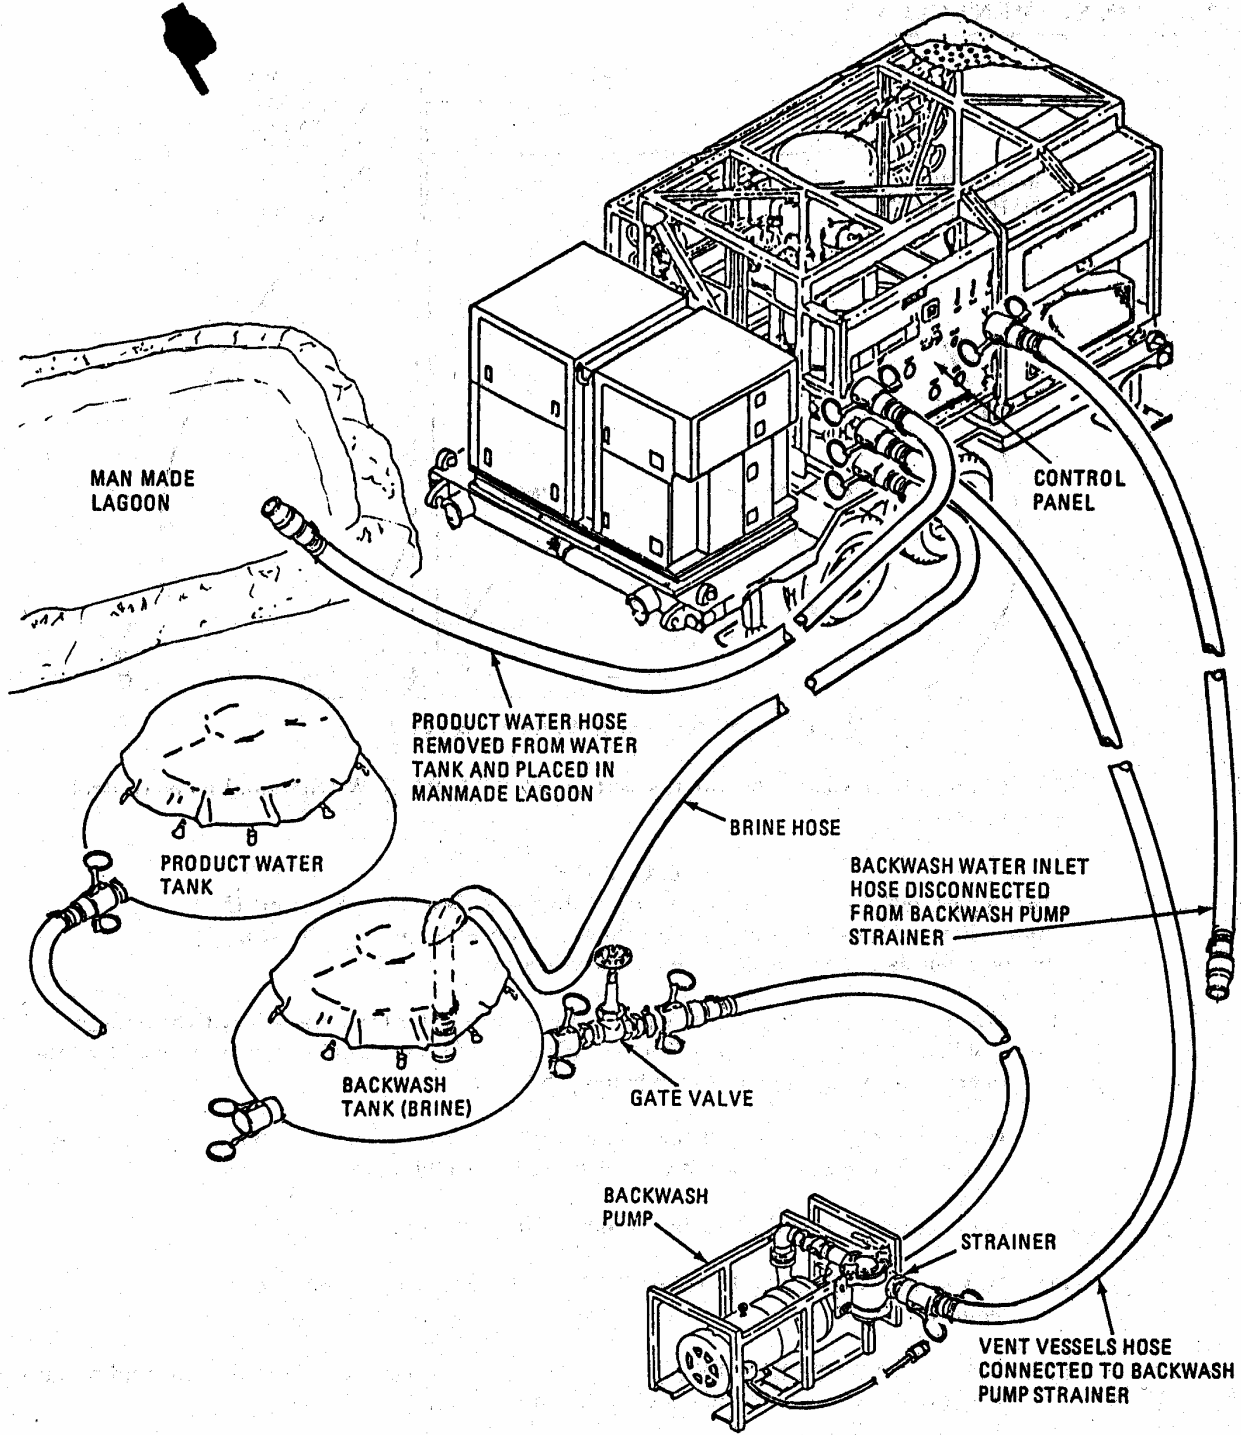

Figure 2-69. Low pH Element Cleaning
- (7) Connect backwash water inlet hose (figure 2-69) to BACKWASH coupling on control panel.
- (9) Disconnect backwash hose from backwash pump strainer (figure 2-69) and place end of hose at least 25 yards down stream of raw water source.
- (10) Connect vent vessels hose to backwash pump strainer.
- (13) Open gate valve (figure 2-69) between backwash tank and backwash pump (turn hand wheel counterclockwise until it stops).